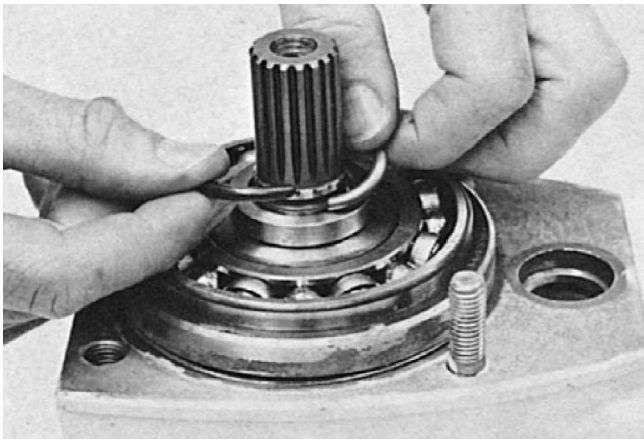

Fig. 18.
4. Place the upper gear together with its shims in the gear housing. Fit the needle bearings (43) with the spacer ring (49) between the bearings and the shaft's lower circlips (50 and 51), Fig. 18.
5. In order to obtain the correct axial clearance on the shaft (43), a choice can be made between three nuts (52) with flats of different thicknesses. Begin by fitting the nut with part No. 897311.